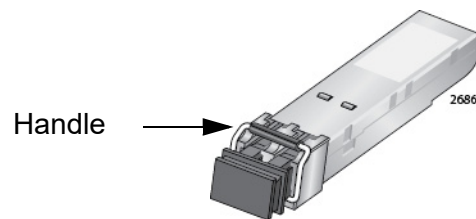

Figure 60. Handle on a Fiber Optic Stacking Transceiver
2. To install the transceiver in the S1 slot, position it with the handle on top, as shown in Figure 60. To install it in the S2 slot, position it with the handle on the bottom.